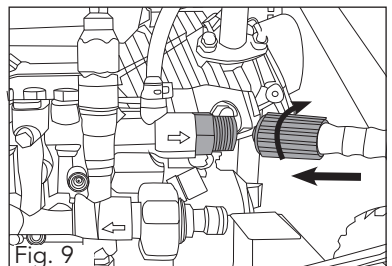

Fig. 9
3. Thread the opposite end onto the high pressure pump outlet (fig. 9).